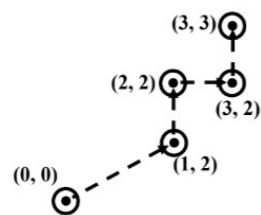

Figure 3
(ii) The trajectory of table motion for a CNC machine is given in Figure 3. (8)